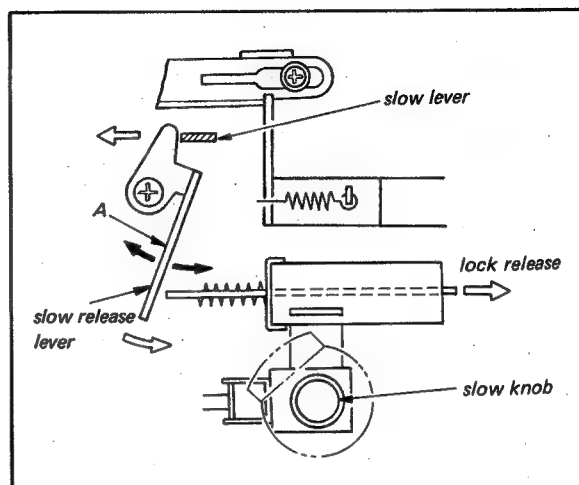

Fig. 4-26.
4. If the above condition does not exist, bend Section A with a pair of pliers for adjustment. Refer to Fig. 4-26. The reel panel and the sash should be removed before adjustment.